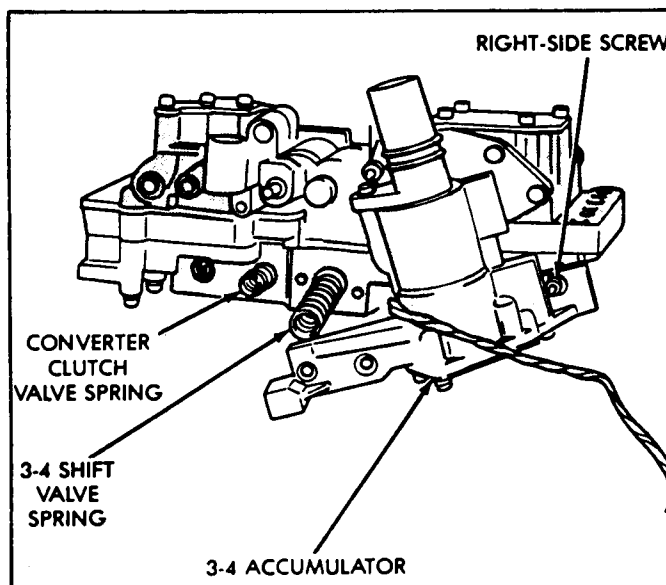

Figure 104
24. Loosely attach the accumulator housing using only the right side screw, shown in Figure 104.